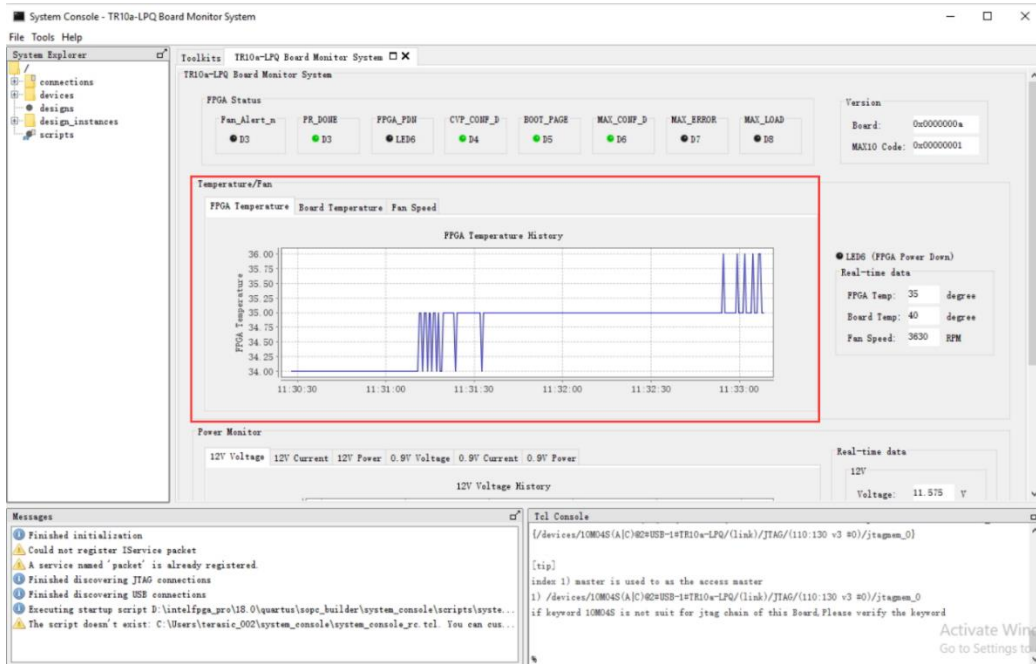
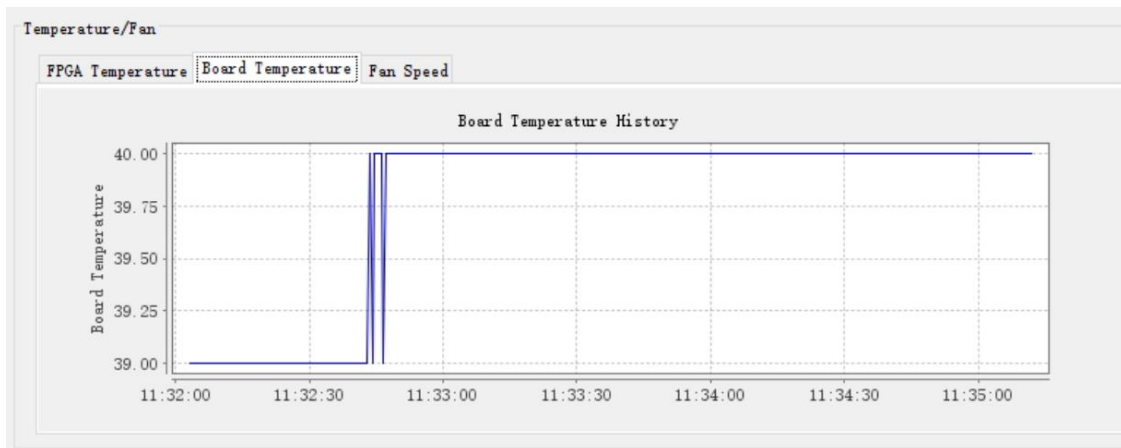
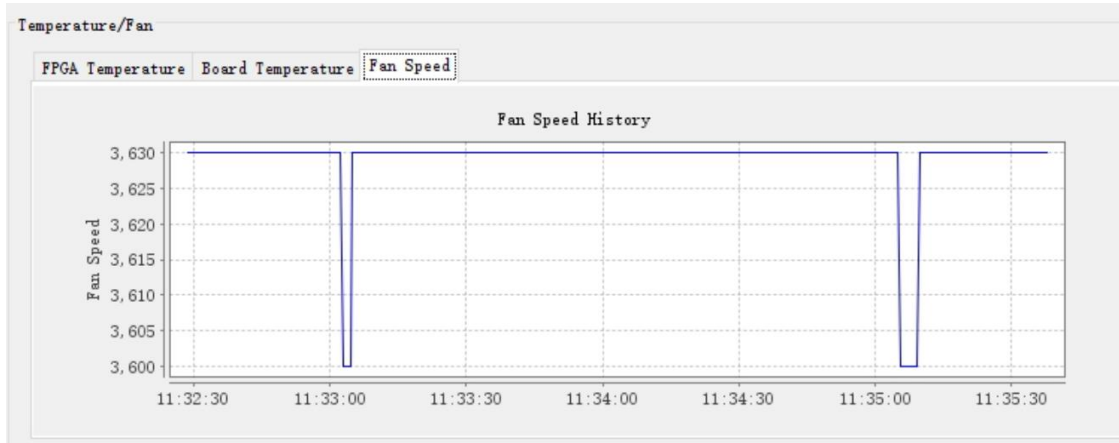

Figure 8-6 Temperature/Fan Section
Figure 8-7 Board Temperature GUI
Figure 8-8 Fan Speed GUI
- **Temperature/Fan:** The Dashboard GUI will real-time show the fan speed, TR10a-LPQ board ambient and FPGA temperature. Users can know the board temperature in time. The information will be refreshed per 0.5 second, and displays through diagram and number, as shown in **Figure 8-6, Figure 8-7** and **Figure 8-8**.